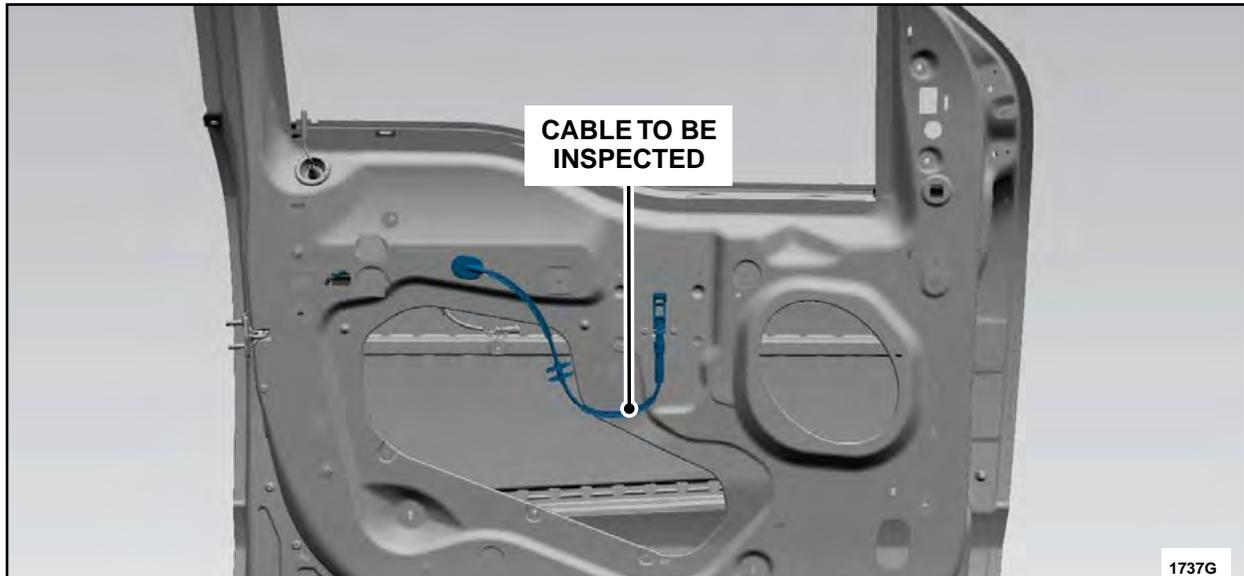

FIGURE 37
8. Inspect the interior door handle to latch cable for kinking. See Figure 37.